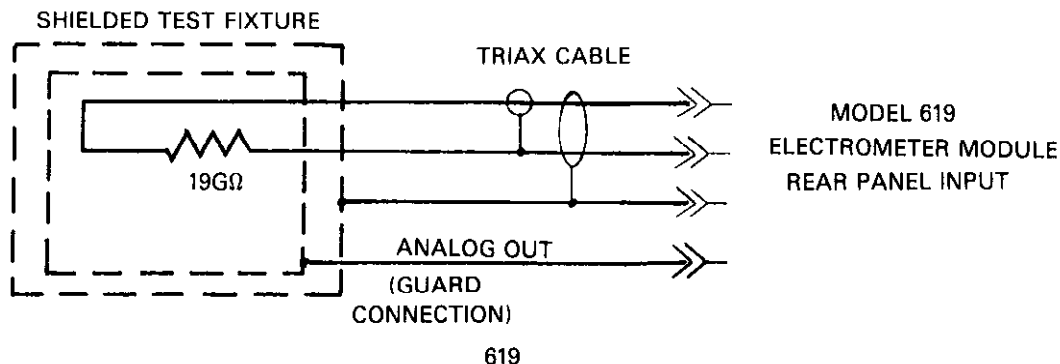

Figure 6-8. Range Calibration, $20\text{G}\Omega$
11. 20GΩ Range Calibration: Calibrate the 20GΩ range see Figure 6-8. Zero Check the Model 619 and uprange to the 20GΩ range. Connect the 19GΩ Calibration Resistor to the input of the Model 619, release the Zero Check, and adjust R655 for a display reading of 19.000 +9 to within ± 15 counts.